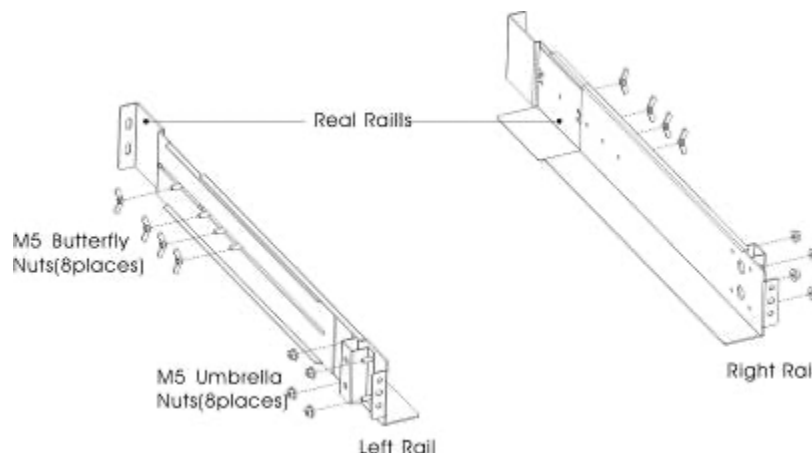

Figure 1 Securing the Rails
(1) To install the rail kit
- a) Assemble the left and right rails to the rear rails as shown in Figure 1. Do not tighten the screws.
- c) Tighten four M5 Umbrella Nuts in the side of rail assembly (see Figure 1).